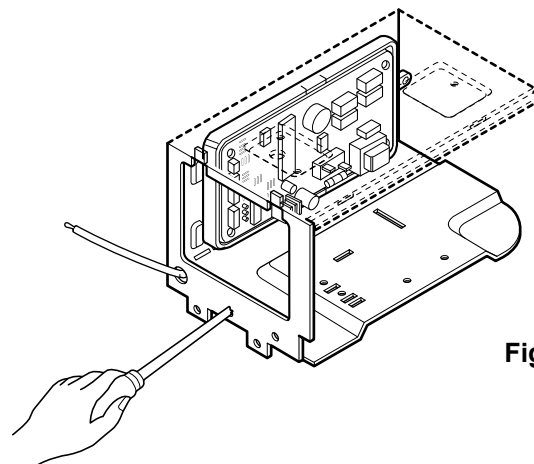

Figure 29
6. Re-install the components by referring to the above removal procedure above. (See Figure 29)